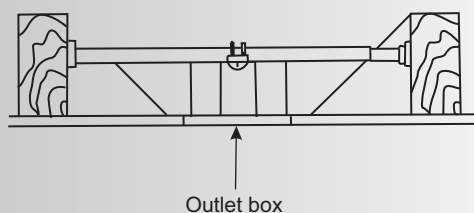

Fig. 4
**NOTE:** Depending on the location you have selected for installation, you may need to purchase and install a "Joist Hanger" for the support of the outlet box. Make sure the joist hanger you purchase has been designed for use with ceiling fans. (Fig. 4)